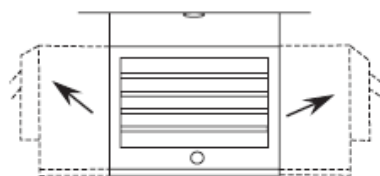

**Figure 5**
- 4) If the heater is to be tilted it must be positioned in the keyhole slots - see **figure 5**.
2. To tilt the unit vertically, loosen the bracket screws (see figure 5).